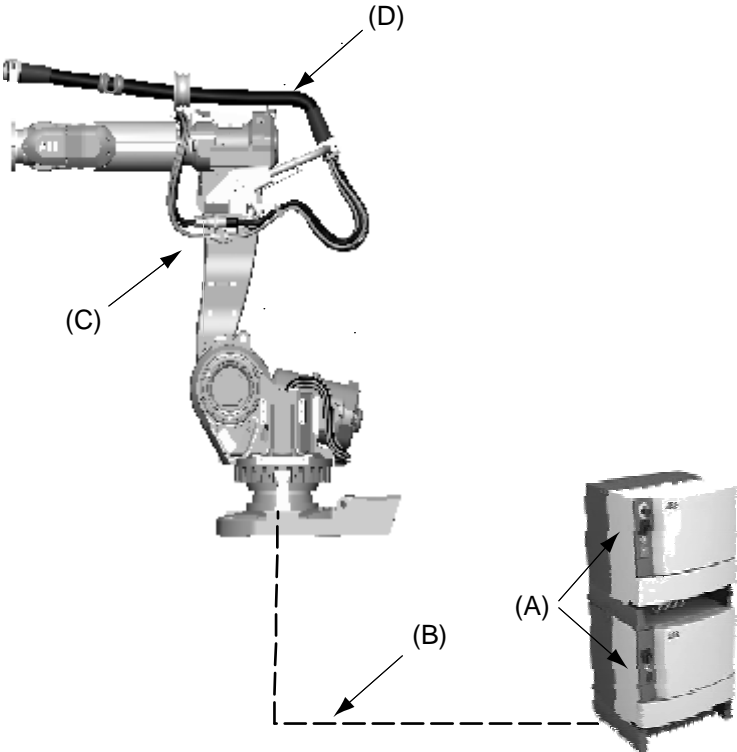

Figure 65
Variant Type H is designed for material handling (MH) application. Included modules are shown in Figure 65.